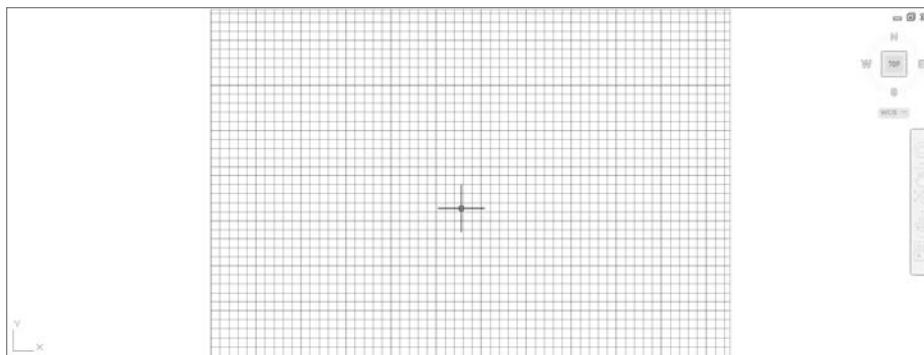

FIGURE 3.11 The drawing with the grid extending to the 60'×40' (18,000 mm×12,000 mm) limits
6. Uncheck the Display Grid Beyond Limits option and click OK. The grid no longer fills the screen, and there are blank areas on either side of the drawing area (see Figure 3.11).